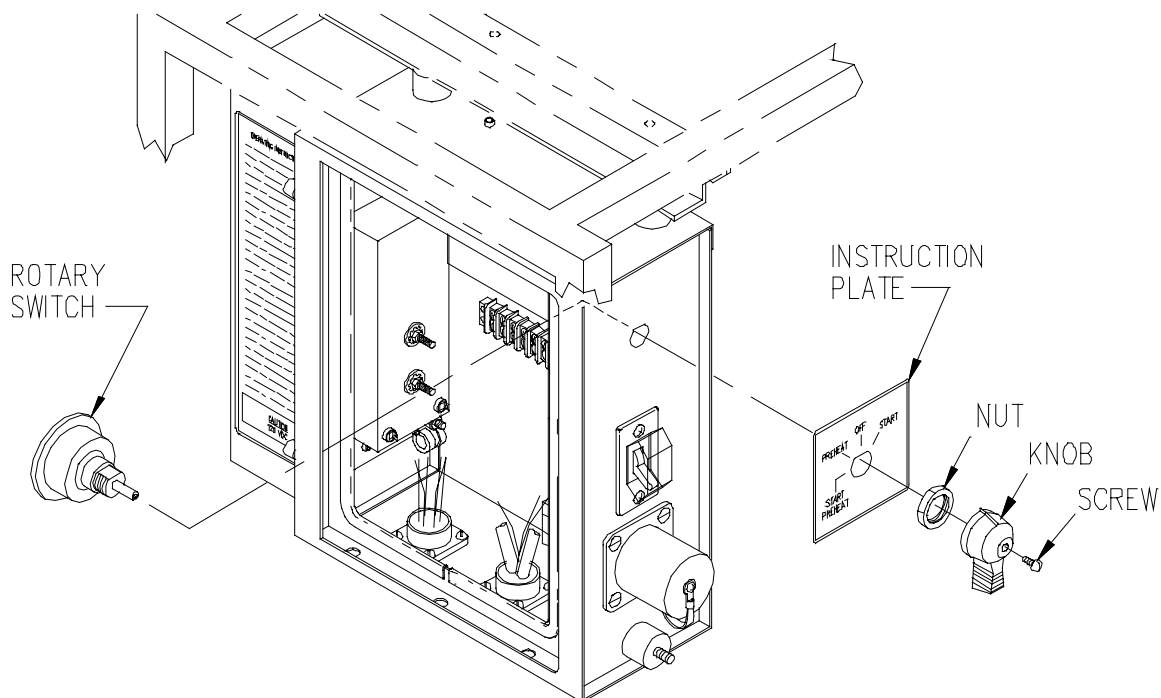

Figure 4-34. START-PREHEAT/PREHEAT/OFF/START Rotary Switch
- (1) Shut down generator set.
- (2) If connected, disconnect power source at NATO slave receptacle.
- (3) Release instrument panel by turning fastener, open instrument panel slowly.
- (4) Tag and disconnect START-PREHEAT/PREHEAT/OFF/START rotary switch (Figure 4-34) electrical leads and check switch for continuity using multimeter. Refer to Electrical Schematic Figure FO-1 (MEP-531A) or Figure FO-2 (MEP-501A) to determine circuits made to corresponding switch positions.
- (5) Check continuity until all four positions have been checked.
- (6) If readings are not as noted in schematic, switch is unserviceable and must be replaced.
- (7) Connect electrical leads, remove tags, close and secure instrument panel.
- (2) Release instrument panel by turning fastener, open control panel slowly.
- (3) Tag and disconnect START-PREHEAT/PREHEAT/OFF/START rotary switch (Figure 4-34) electrical leads.
- (4) Remove screw and knob from START-PREHEAT/PREHEAT/OFF/START rotary switch.
- (5) Remove nut, instruction plate, and START-PREHEAT/PREHEAT/OFF/START rotary switch from control panel.
- (1) Insert START-PREHEAT/PREHEAT/OFF/START rotary switch (Figure 4-34) into control panel.
- (2) Position instruction plate over START-PREHEAT/PREHEAT/OFF/START rotary switch and secure both in control panel with nut.
- (3) Install screw and knob on START-PREHEAT/PREHEAT/OFF/START rotary switch.
- (4) Connect electrical leads and remove tags.
- (5) Close and secure instrument panel.